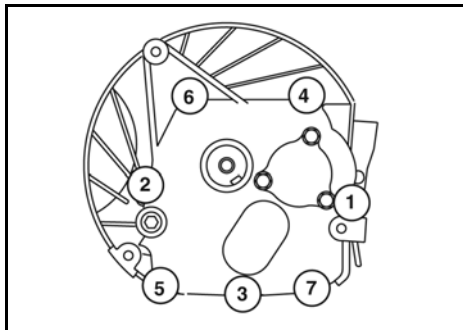
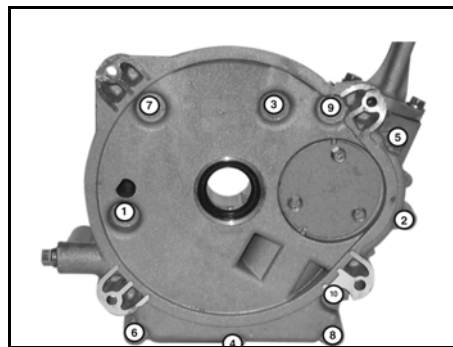

Figure 10
Figure 12
- Figure 10 - Vertical shaft models 97700, 99700
- Figure 12 - Vertical shaft models 280000, 310000, 330000
**NOTE:** Screws assembled at position 4, Figure 10 and position 9, Figure 12 were coated with sealant. If sealant is missing, coat with a non-hardening sealant such as Permatex® 2, or equivalent.